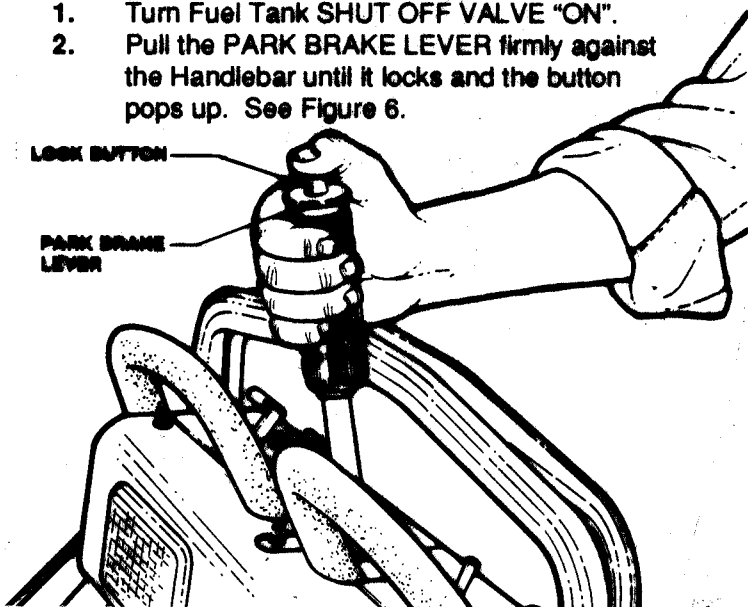

FIGURE 6
2. Pull the PARK BRAKE LEVER firmly against the Handlebar until it locks and the button pops up. See Figure 6.